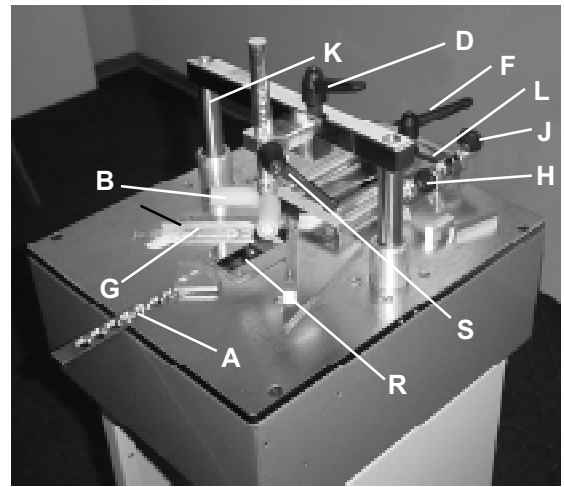
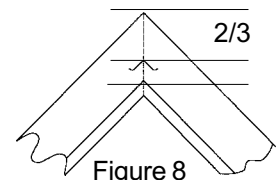
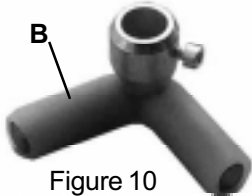

Figure 6
Figure 8
Figure 10
The **Flat Upper Clamp Pad** is used for flat or rounded frames, while the **Rounded Upper Clamp Pad (B)** is used for moulding that has a concave contoured surface. Do not mount either on the **Upper Clamp Shaft (K)** until the following steps are completed. Refer to Figure 6 for the following steps, unless otherwise noted.
1. Remove the **Front Clamp (A)**. Place one leg of the moulding you are going to join against the left **Fence (G)** and hold its end against the right **Fence**. You will be able to see the slot in the **hammer block (R)** where the **Nail** will be inserted.
2. Slide the fence assembly to the position for the first **Nail**, Figure 8, near the frame rabet. Lock the **Collar (H)** against the front of the **Slide Block (L)**. This **Nail** should be inserted about 1/3 of the frame width from the rabet as shown in the drawing.
3. Slide the **Fence Assembly** toward the front to the position for the second **Nail** which should not be any closer than 3/16" from the frame corner to avoid splitting the wood. Lock the **Collar (J)** against the back of the **Slide Block (L)**.
4. Install the **Round Right Angle Pad (B)**, Figure 10, to the bottom of the **Upper Clamp Shaft (K)**.
5. Place the two frame pieces against the fences and push the **Fence Assembly (G)** to the rear against the **Collar (H)**.
6. Place the **Front Clamp (A)** in its slot and position it about 1/4" to 3/8" from the frame.